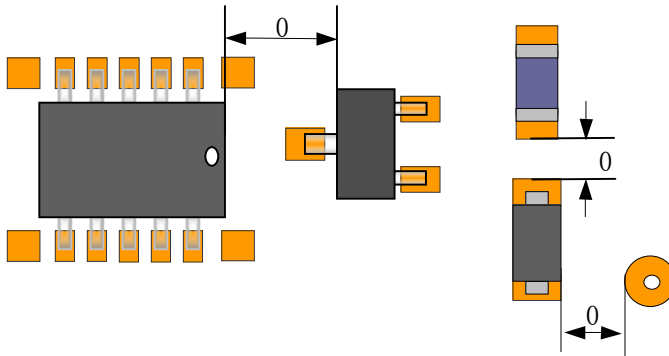

Figure 26: Layout of components of different types and PCB structures.
- For different component types, the solder pad edge spacing should be $\geq 1.0\text{mm}$. Distance requirements are shown in Figure 26 and Table 4.